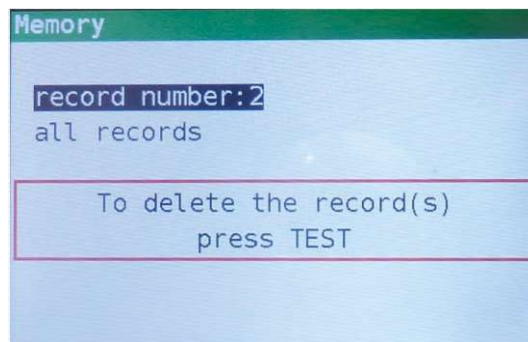

Figure 7.6: Delete screen
- Step 3** Press the **RIGHT** key, the following screen will be displayed (Figure 7.6).